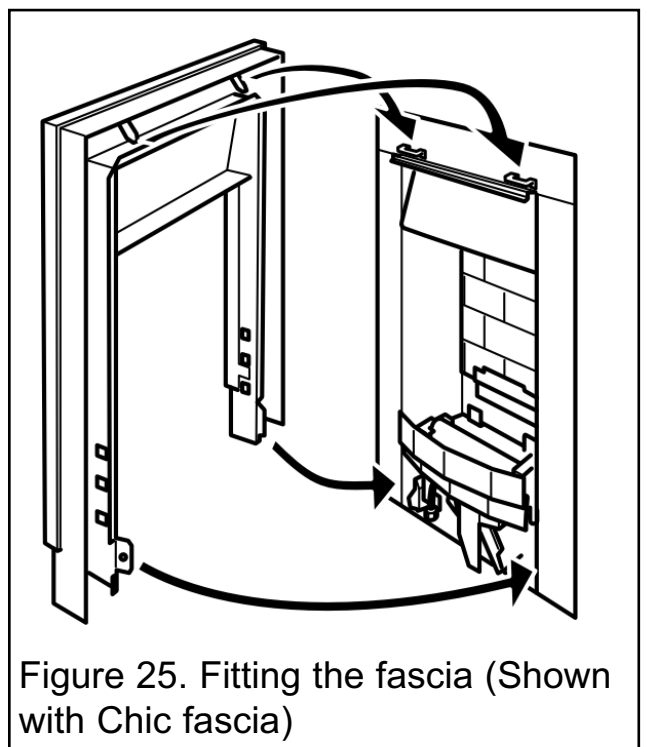
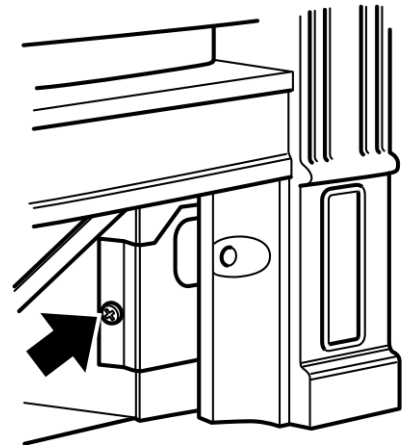

Figure 25. Fitting the fascia (Shown with Chic fascia)
Figure 27. Fascia securing screws (fascia may differ from that shown).
1. Fit the fascia to the appliance by locating the top to the upper hanging brackets (See figure 25), then attaching it to the body of the appliance using the two screws supplied (See figure 27).
3. Fit the fascia to the appliance by locating the top to the upper hanging brackets (See figure 25), then attaching it to the body of the appliance using the two screws supplied (See figure 27).
4. Fit the fascia to the appliance by locating the top to the upper hanging brackets (Figure 25), then attaching it to the body of the appliance using the two screws supplied. If using the 'Hole in the wall' baffle, place the fascia brackets over the baffle and secure using the two screws for securing the fascia (See Figure 27).